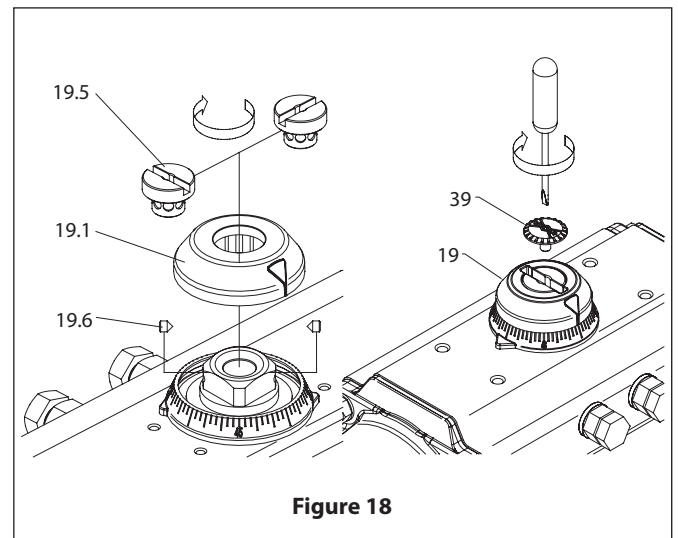
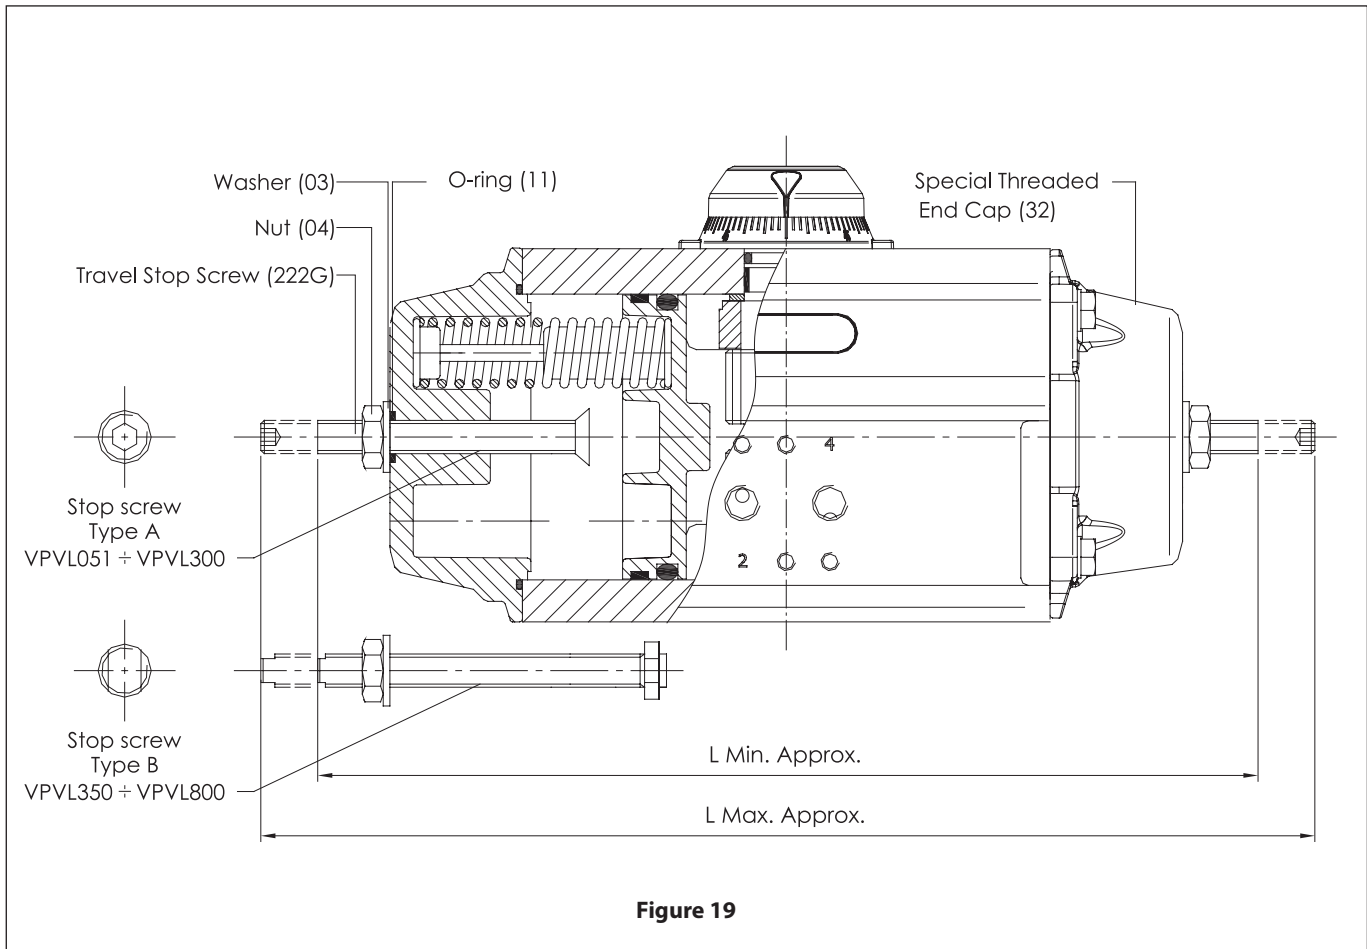

Figure 18
Figure 19
- B. If the valve is not in the correct clockwise position, turn the right stop adjustment screw (2) IN to reduce actuator travel, or OUT to increase actuator travel.
- C. When the correct clockwise position is obtained, hold the adjusting screw (2) stationary while tightening the lock nut (4).
- E. If the valve is not in the correct counter-clockwise position, turn the left stop adjustment screw (2) IN to reduce actuator travel, or OUT to increase actuator travel.
- F. When the correct counter-clockwise position is obtained, hold the adjusting screw (2) stationary while tightening the lock nut (4).
6. Position Indicator (19, 39) Assembly. (Figure 18):
- A. Fit position indicator (19) on the shaft (60), verifying that it indicates the correct actuator position.
- B. Tighten cap screw (39) to secure the position indicator.
7. Setting 100% Adjustable Stop (If applicable). (Figure 19):